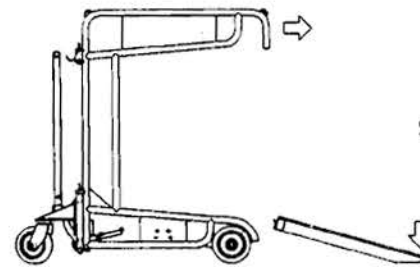

Figure 10
- Tilt the base plate by standing on the front rim, then pull the BigBagCar® underneath the base plate, and afterwards lower the base plate (see Figure 10 to 12 on page 17).
Stand on the front side of the base plate so that it tilts as shown in Figure 10. Then pull the BigBagCar® S96/S99 towards you.